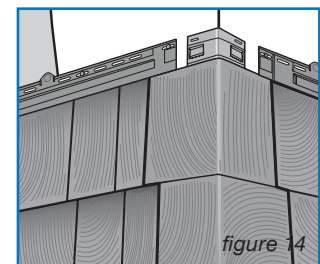

figure 14
3. Once the panel has been fastened, hook the corner piece over the siding, making sure the corner piece is locked into the nail hem starter (figure 14).